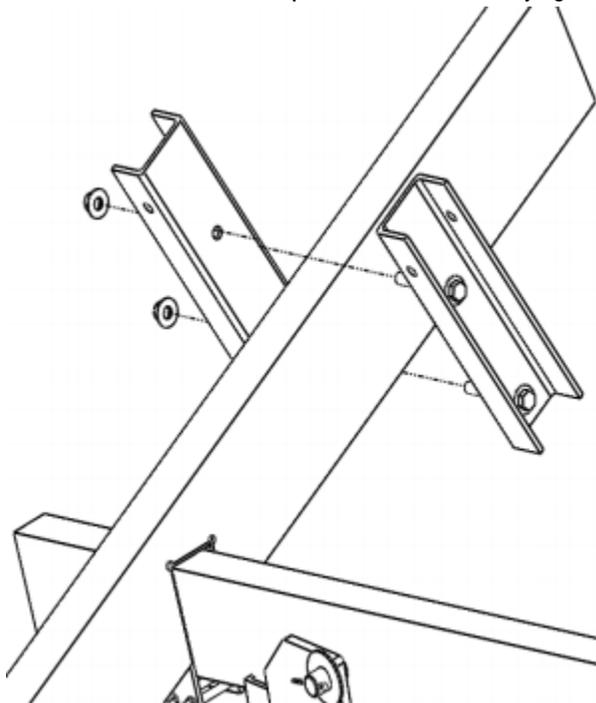

Figure 18
1. Align the 1/2" holes of the V-Bunk Brackets so that they are above and below the V-Bunk arm as shown in Figure 18.
2. Attach one (1) 1/2" Flat Washer over two (2) 1/2" Hex Bolts and insert them into the corresponding holes as shown in Figure 18.
3. Attach one (1) 1/2" Lock Washer and one (1) 1/2" Hex Nut over the protruding ends of the Hex Bolts and hand tighten.